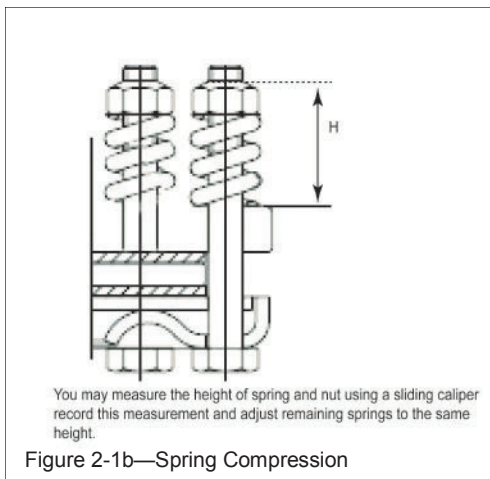

Figure 2-1b—Spring Compression
5. Check all spring lengths are the same (H); adjust nut on any spring that is unequal in length. Refer to Figure 2-1b—Spring Compression.